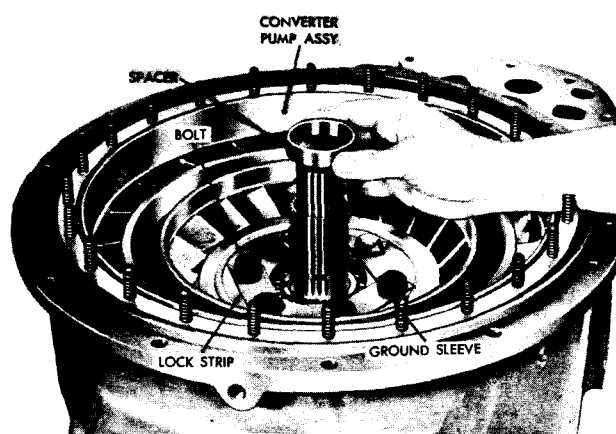

Fig. V-16. Removing (or installing) pump spacer
(7) Remove the spacer from the ground sleeve (fig. V-16).
(8) Flatten the three lock strips and remove six bolts (fig. V-16).
(9) Using a sleeve, puller, two studs, nuts and flat washers, pull the torque converter pump assembly from the ground sleeve.